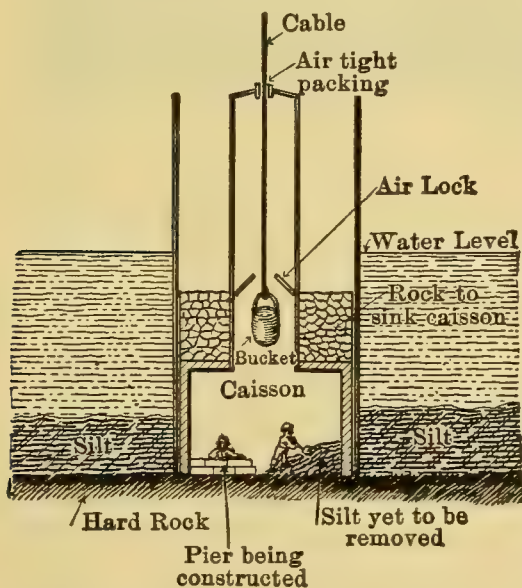

FIGURE 124.—CAISSON IN PLACE.
81. Caissons and Other Applications. — The *caisson* (Figure 124) is essentially a box open at the bottom and weighted so that it will sink in the mud of a river or harbor in which an